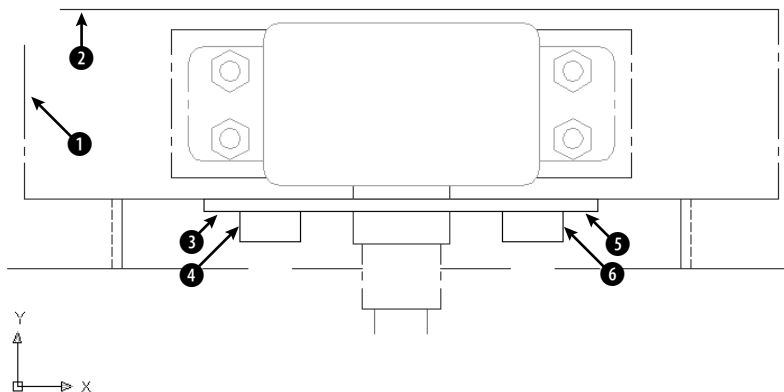

Figure 10-33: A mechanical drawing showing a small section of a “porcupine” mixer.
2. Save the file as ab10-11.dwg in your AutoCAD Bible folder. This is the same drawing used in the previous exercise. It is shown in Figure 10-33.
4. At the Select first object or [Undo/Polyline/Radius/Trim/Multiple]: prompt, pick the line at ① in Figure 10-33. At the Select second object or shift-select to apply corner: prompt, pick the line at ② to fillet the two lines.
6. At the Select first object or [Undo/Polyline/Radius/Trim/Multiple]: prompt, right-click and choose mUltiple. Pick the line at ③ in Figure 10-33. At the Select second object or shift-select to apply corner: prompt, pick the line at ④ to fillet the two lines. The prompts continue. This time pick at ⑤ and ⑥.